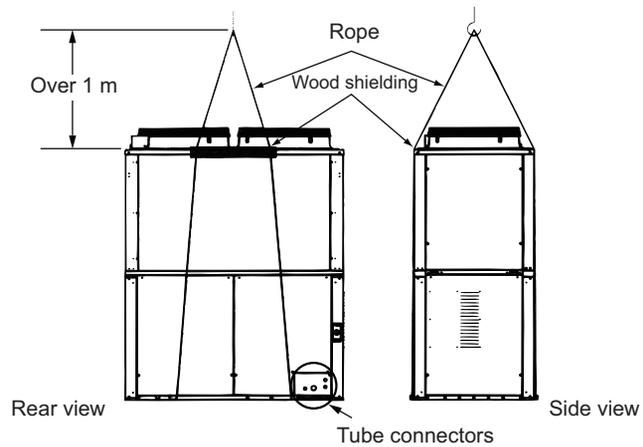

Fig. 13
- For hoisting, pass the rope over the hoisting brackets on the unit vase at 4 locations. (Fig. 13)
- Insert wood separators as protective shielding when using the hoist to prevent the outer casing from being scratched or deformed by the rope. Be sure not to touch or apply pressure on tube connectors. (Fig. 13)